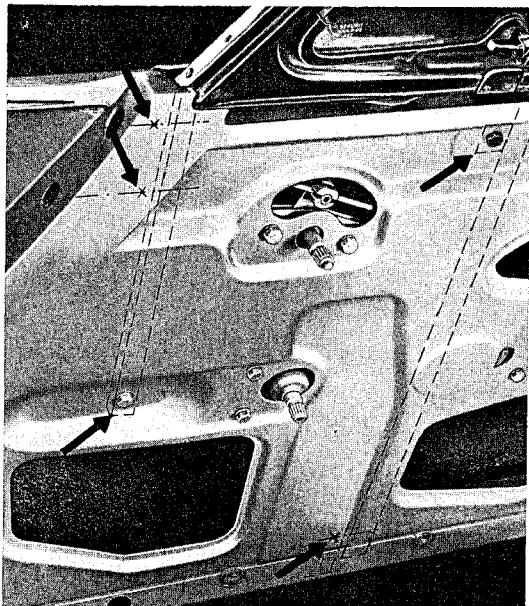

Fig. 57
3. Remove the mounting screws from the vent window frame and window rail as shown in Fig. 57.